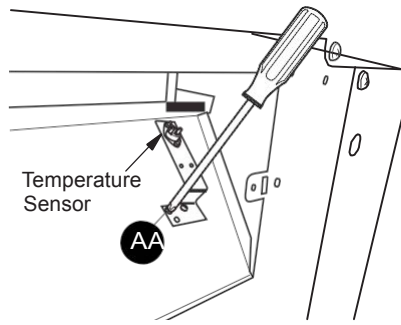

Figure 21 - Attaching Temperature Sensor to Firebox
4. Attach the temperature sensor to the back of the firebox with 2) M4.2X8 screws (AA) (see Figure 21).